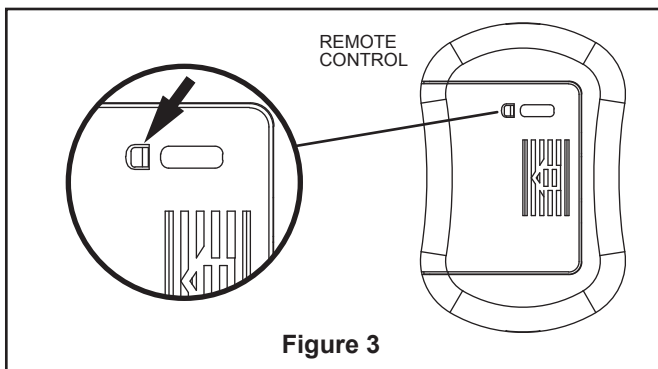

Figure 3
3. Remove battery cover with a small screwdriver or ball point pen firmly press the tab and slide battery cover off. (Figure 3)